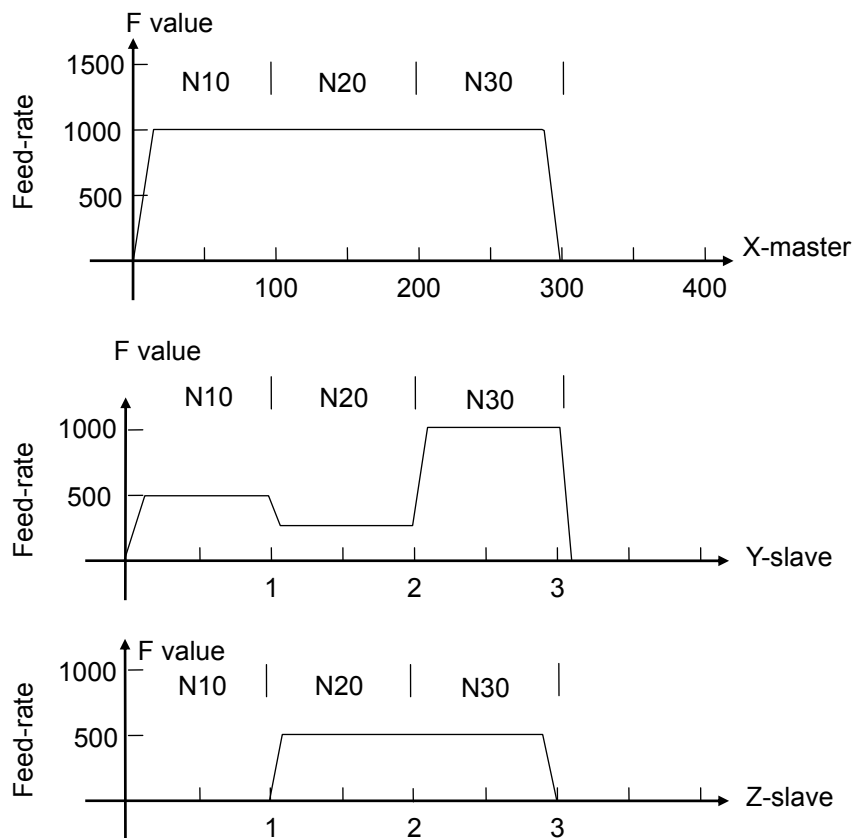

Fig 3-5 Mater/Slave mode – Master Speed unchanged
Ex2: As shown in Fig 3-5, X is the master while Y and Z are the slaves. The feed-rate of the master axis (X) in each block doesn't change, but the feed-rate of the slave axes (Y, Z) changes along with the incremental slope ratio.
In Example 2, the feed-rate of Y-slave changes along with the incremental slope rate of X, Y and is not reset to zero. Since both increments of the Z-axis are 50, the feed-rate remains the same. Note that there is a small interval between blocks during acceleration/deceleration. (Fig. 3-5)